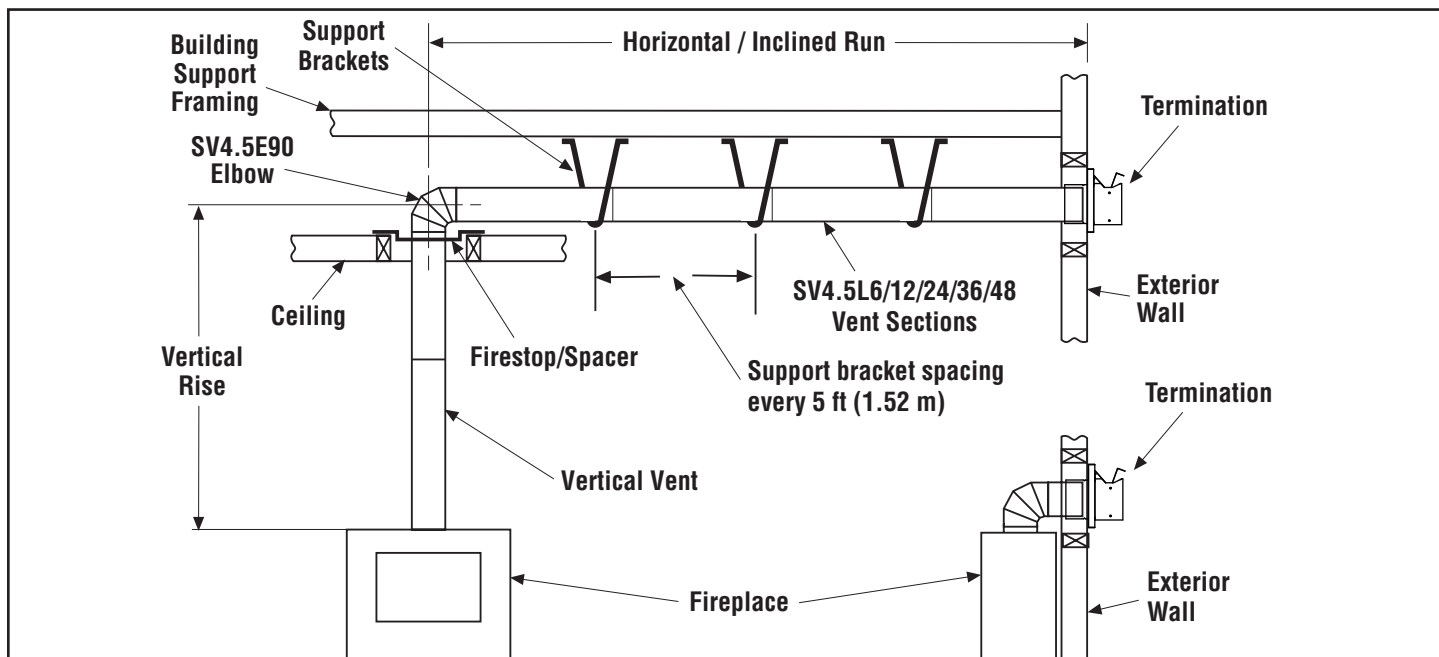

Figure 8 - Typical Horizontal Vent Installation
2. **Support fireplace vent outlet with field provided support straps (Plumber's tape)**—Attach the straps to the vent pipe and secure to the framing members with nails or screws (*Figure 8*).
1. **Continue installation of horizontal/inclined sections**—Continue with the installation of the straight vent sections in horizontal/inclined run. Install support straps every 5 ft. (1.52 m) along horizontal/inclined vent runs using conventional plumber's tape (*Figure 8, Page 13*). Maintain the horizontal/inclined run in a straight (no dips), slightly elevated plane. The recommended incline is approximately 1/4" per 1 ft (20 mm per 1 m) horizontal, in a direction away from the fireplace. Smaller rise per foot run ratios are acceptable all the way to at or near level. Use a carpenter's level to measure from a constant surface and adjust the support straps as necessary. Maintain the required clearances to combustibles (*Page 8*).